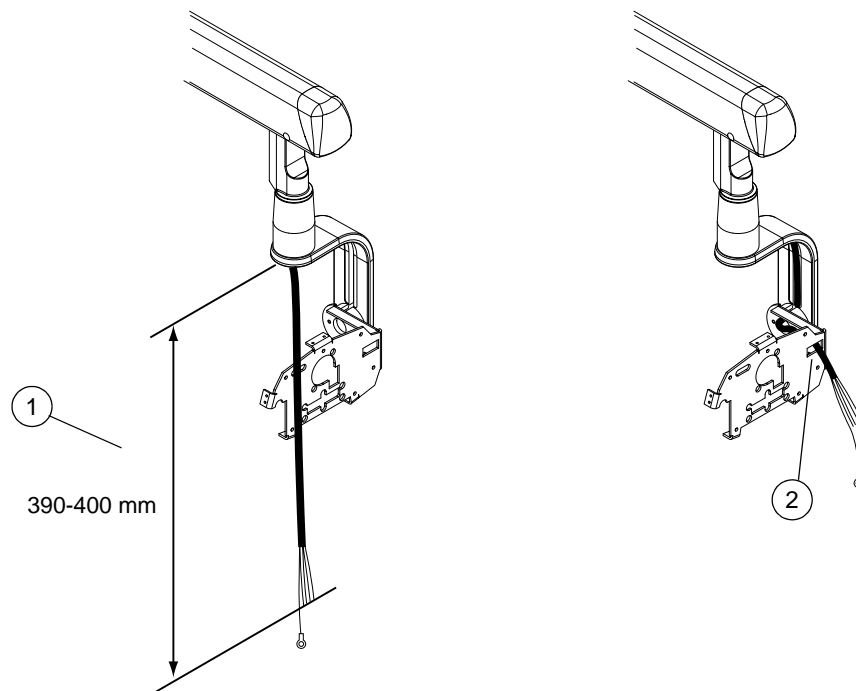

Figure 12
- l) Stop pulling when the new cable is 390-400 mm out from the opening of the tube head support (Fig. 12, 1). Route the cable through the opening on the support frame (Fig. 12, 2).